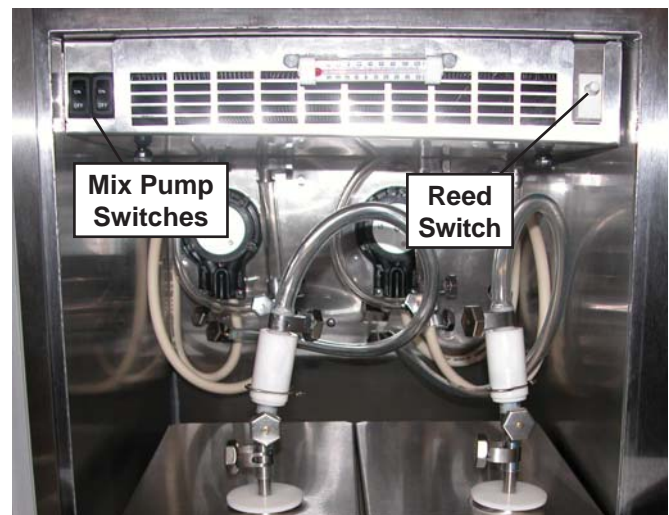

Figure 3-12 Refrigerated Cabinet
5. Place the mix pump switch in the ON position (Fig. 3-12).